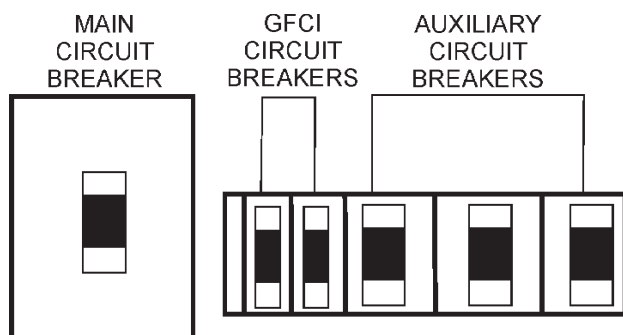

Figure 54. Main, AUX. and GFCI Circuit Breakers (OFF)
1. Switch the **MAIN**, **AUX** and **GFCI** circuit breakers (Figure 54) to the **OFF** position (no load).
1. To shut-down the engine in the event of an emergency, switch the **MAIN**, **GFCI** and **LOAD** (Figure 54) circuit breakers to **OFF** position.